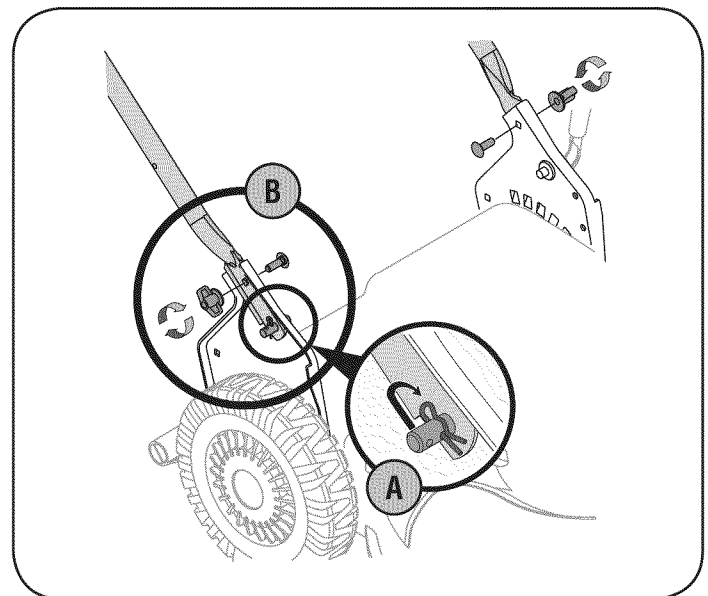

Figure 2
- A. Remove hairpin clip from weld pin. Using a pair of pliers, insert hairpin clip into the hole on pin closest to the bracket. See Figure 2. Repeat on other side.